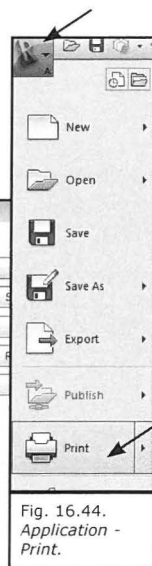

Fig. 16.44. Application - Print.
- Tryk *Application Menu* - *Print* (Fig. 16.44).